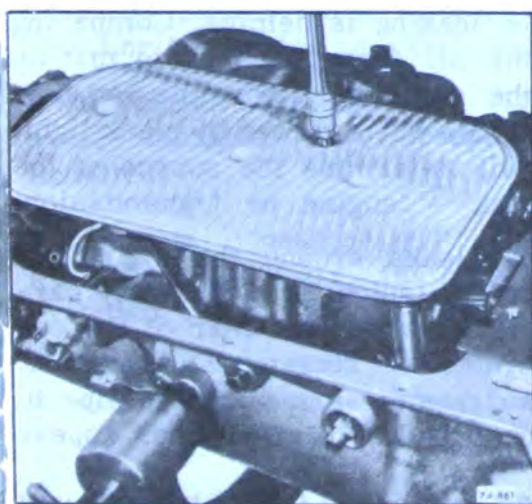

Figure 74-786
2. Install strainer filter and intake pipe assembly attaching filter to valve body assembly with retainer bolt. Torque to 10 lb. ft. See Figure 74-786.